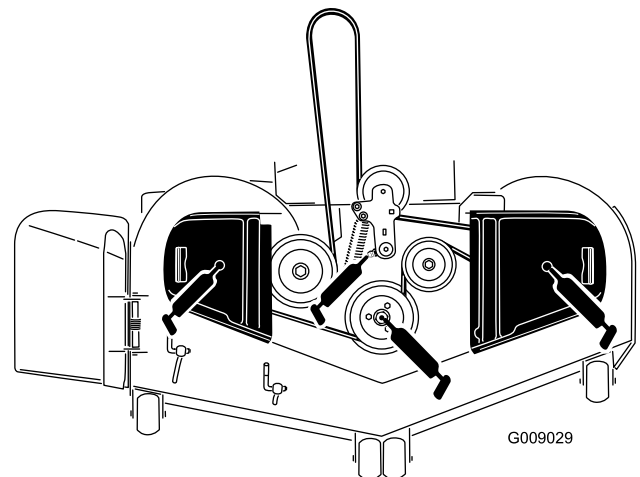

Figure 45
3. Grease the mower-deck idler pulley pivot until grease comes out the bottom (Figure 45).
4. If your machine has greasable spindles, grease the 3 spindle bearings until grease comes out the lower seals (Figure 45).